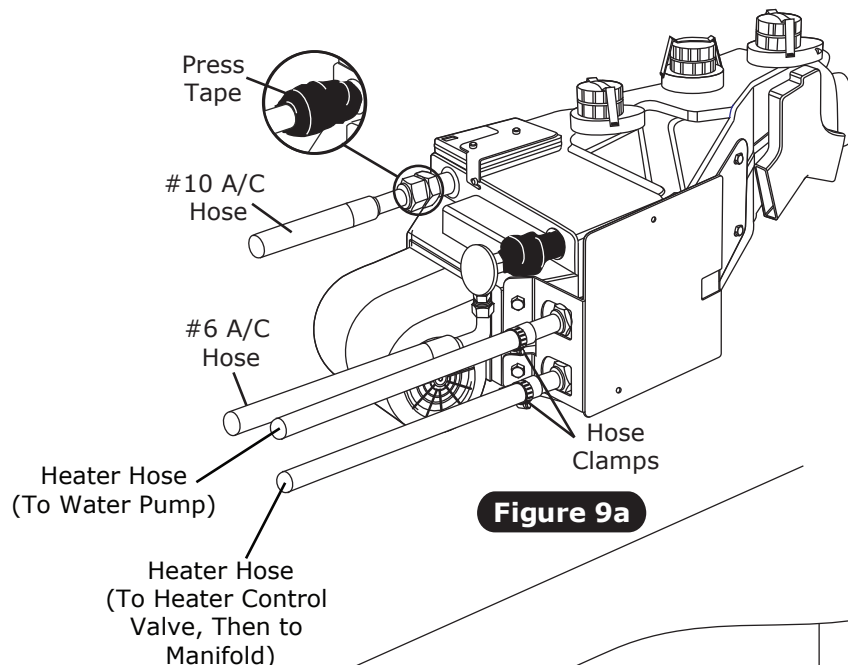

Figure 9a
1. Install A/C and heater hoses (See Figure 9a, below).
2. Locate the #10 compressor A/C hose. Lubricate (2) #10 O-rings and connect the 45° fitting to the #10 suction port on the compressor. Route the 45° female fitting with R134a service port to the #10 hardline on the inner fender cap. Lubricate (2) #10 O-rings and connect the 90° female fitting in the wheel well to the #10 hardline on the inner fender cap. Then route the straight female fitting from the inner fender cap to the #10 fitting on the evaporator (See Figure 9a, Page 11, and Figure 13, Page 14). Tighten each fitting connection as shown in Figure 12, above.
3. Locate the #6 evaporator A/C hose. Lubricate (2) #6 O-rings and connect the straight female fitting to the #6 hardline coming over the core support from the drier. Route the straight female fitting to the #6 hardline on the inner fender cap. Lubricate (2) #6 O-rings and connect the 90° female fitting in the wheel well to the #6 hardline on the inner fender cap. Then route the 90° female fitting from the inner fender cap to the #6 fitting on the evaporator (See Figure 9a, Page 11, and Figure 13, Page 14). Tighten each fitting connection as shown in Figure 12, above.
3. In wheel well, route a piece of heater hose from the top heater fitting on the inner fender cap to the top heater fitting of the heater core as shown in Figure 9a, Page 11, and Figure 13, below. Secure using hose clamps.
4. In wheel well, route a piece of heater hose from the bottom heater fitting on the inner fender cap to the bottom heater fitting of the heater core as shown in Figure 9a, Page 11, and Figure 13, below. Secure using hose clamps. **NOTE: Install heater control valve in line with intake manifold (pressure side) heater hose, and secure using hose clamps as shown in Figure 13, below. Also note proper flow direction.**